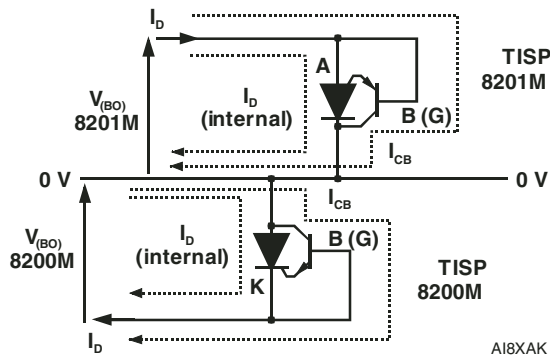

Figure 8. Off-State Current Verification
**Testing transistor CB and SCR AK off state:** The highest AK voltage occurs during the overshoot period of the protector. To make sure that the SCR blocking junction does not break down during this period, a d.c. test for off-state current can be applied at the overshoot voltage value. To avoid transistor CB current amplification by the transistor gain, the transistor base-emitter is shorted during this test (see Figure 8).